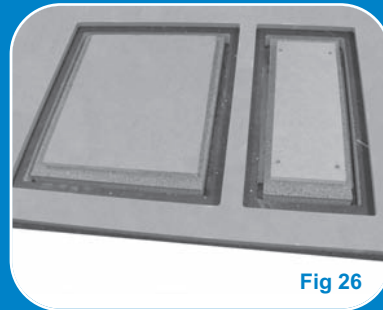

Fig 26
1. Position the worktop "face up" and mark out the sink centre with a pencil (fig 26).